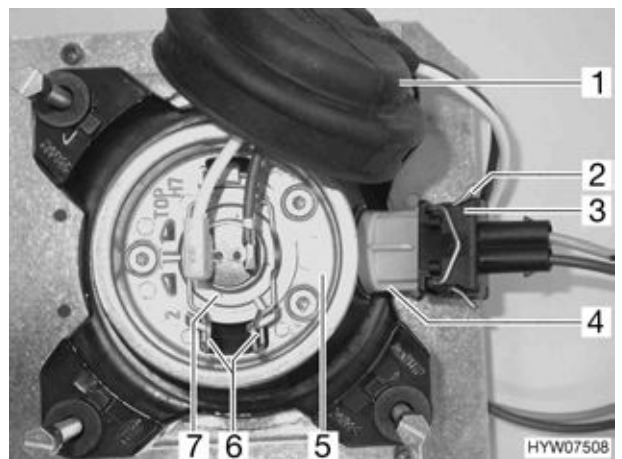

Fig. 172 Main beam/parking light
- Remove rubber cap (Fig. 172,1) from lamp housing (Fig. 172,5).
- Press the metal clips (Fig. 172,6) together and release them from the holder.
- Remove bulb (Fig. 172,7) with cable from the lamp housing.
- Press the metal clamp (Fig. 172,2) on the cable connector (Fig. 172,3) and pull out the cable connector.
- Turn lamp housing (Fig. 172,4) a little in an anticlockwise direction.